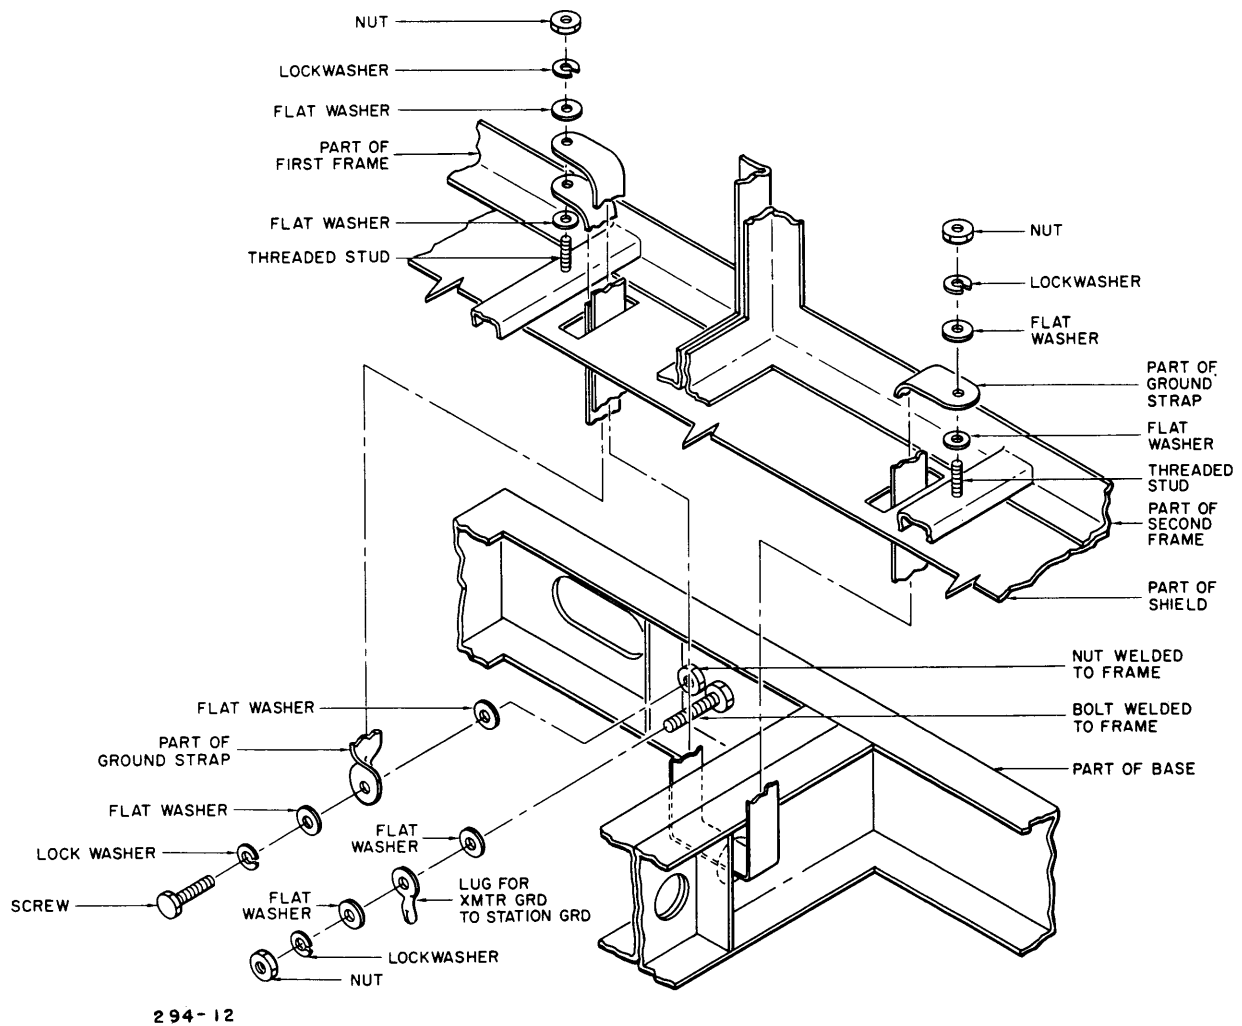

Figure 4-2. Ground Straps, Installation Diagram
Using hardware from crate 1 bag 2, bolt grounding straps (contained in crate 1), as indicated in figure 4-2 to the base assembly.
- h. Mount grounding straps to threaded studs in bottom rear of frames, figure 4-2, using remaining hardware from crate 1, bag 2.